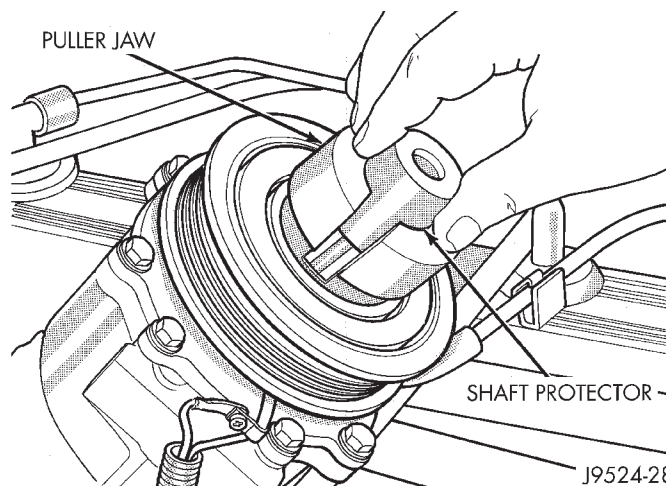

Fig. 21 Shaft Protector and Puller
(10) Install the lip of the rotor puller (Special Tool C-6141-1) into the snap ring groove exposed in the previous step, and install the shaft protector (Special Tool C-6141-2) (Fig. 21).